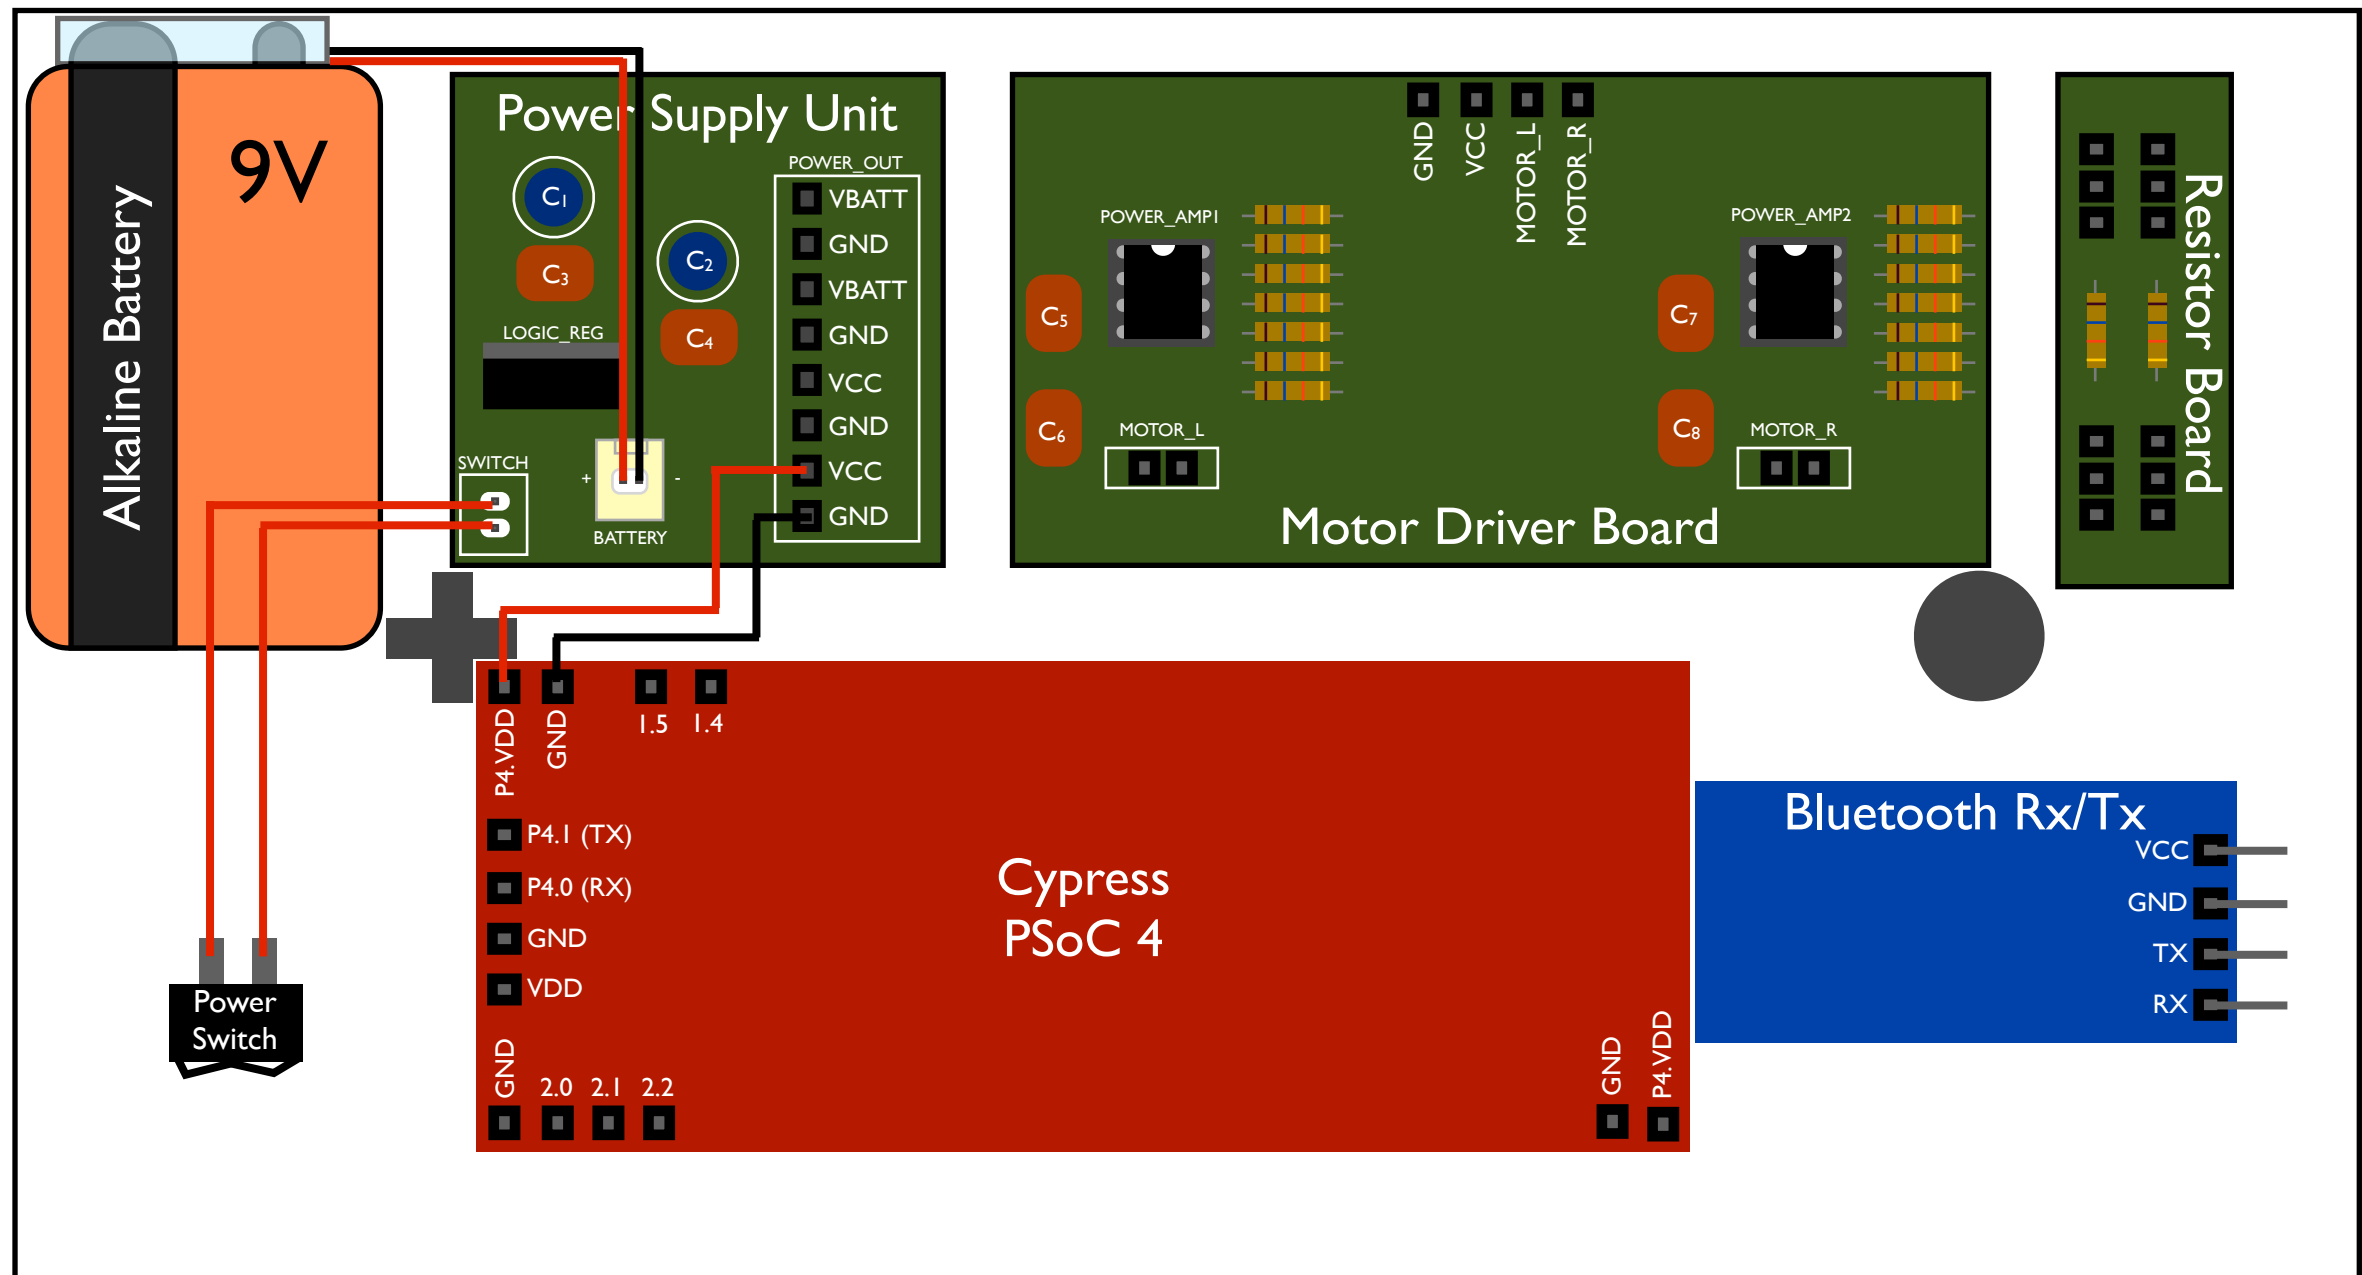

Figure 5. Testing connections between battery, power switch, PSU, and PSoC
5. Test steps 1-4: Does the PSoC receive power? (Figure 5)